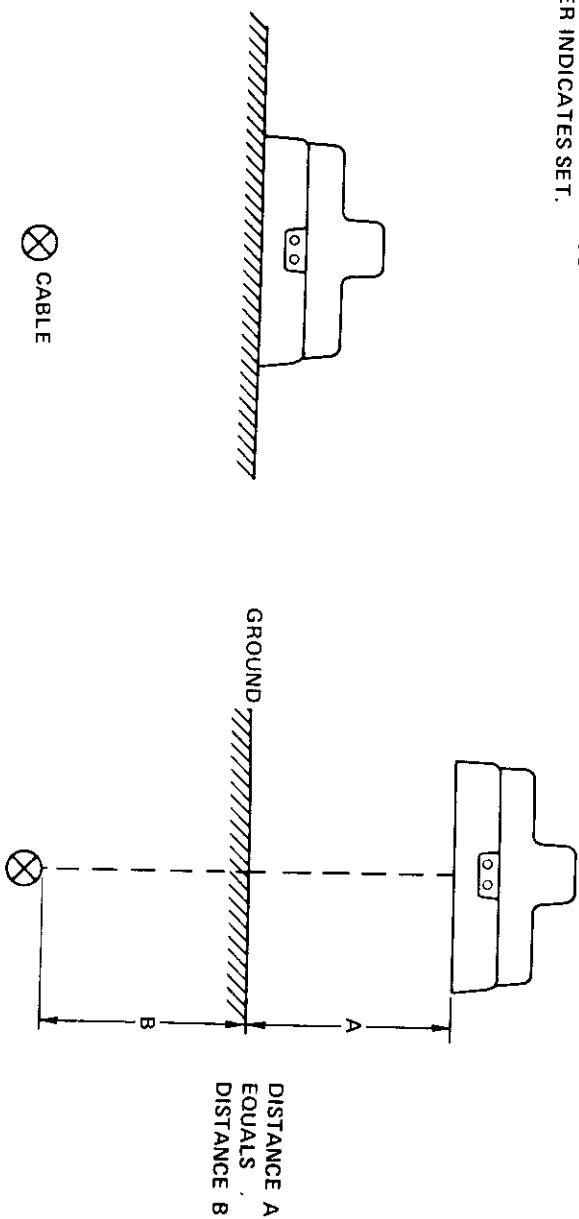

Figure 7. Cable Depth Location
- 5) Measure the distance from the bottom of the receiver to ground. This is equal to the depth of the cable below the surface of the ground. See Fig. 7.